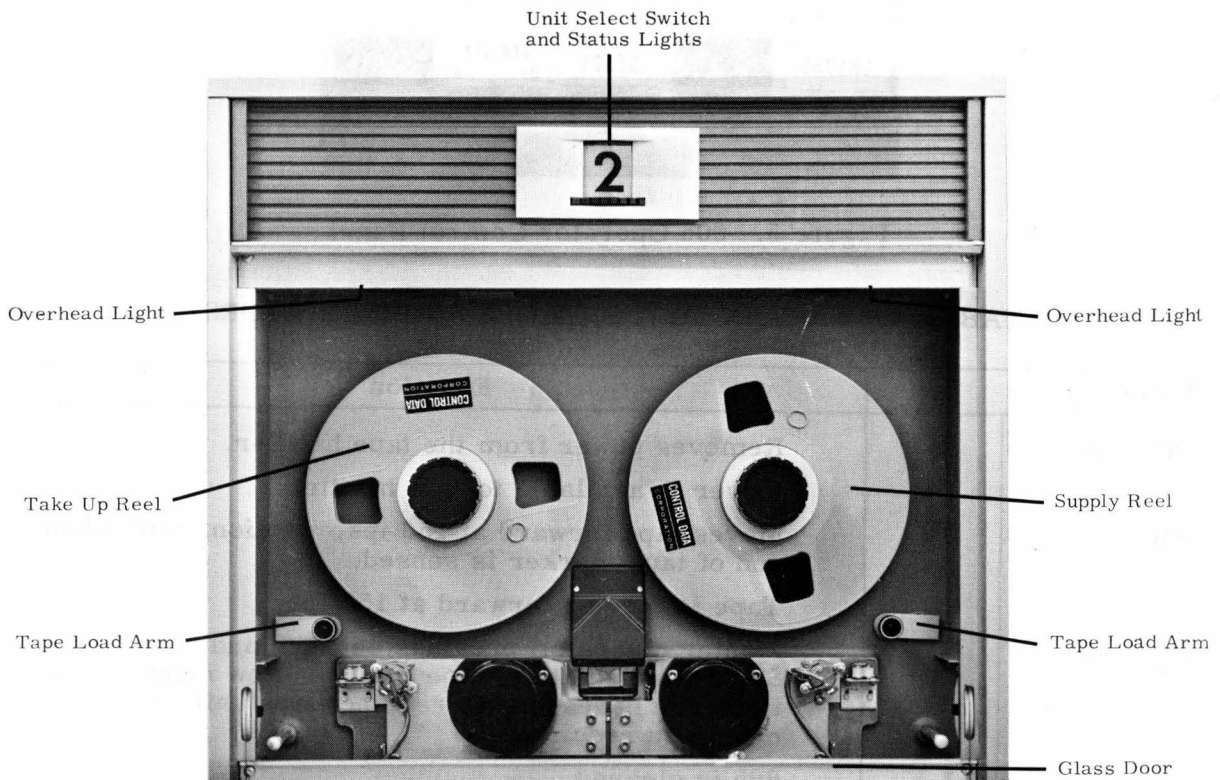

Figure 4. Tape Load and Unload Mechanics
- 1) Slide front door down to lowest position (figure 4).